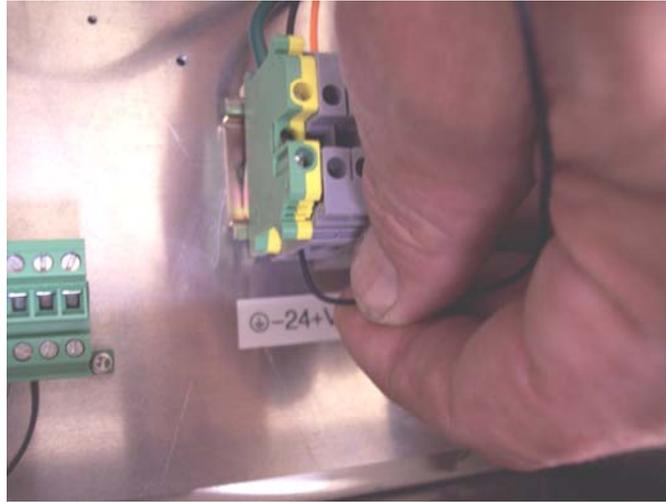
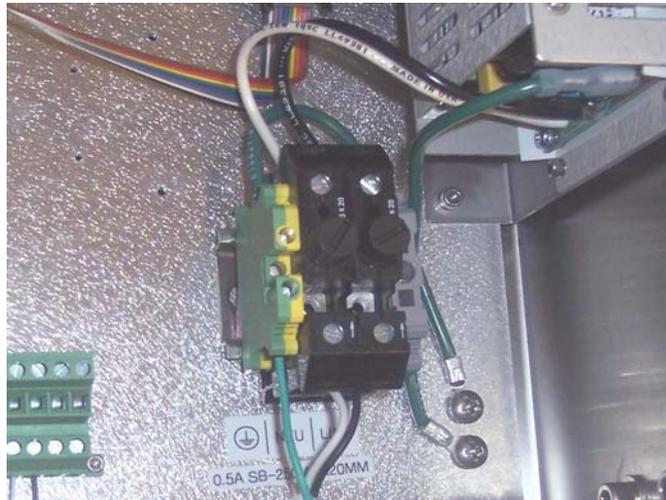

Figure 8: For 12- or 24-volt systems, connect DC minus line to terminal marked “-” and positive line to terminal marked “+.”
Figure 9: Connect AC neutral wire to terminal marked “NEU,” and hot wire to terminal marked “LINE.”
5. Attach the neutral and hot wires to the power terminal strip by connecting the AC neutral wire to the terminal marked "NEU," the hot wire to the terminal marked "LINE" (see **Figure 9** on page 21), the DC minus line to the terminal marked "-", and the positive line to the terminal marked "+" (see **Figure 8** on page 21)